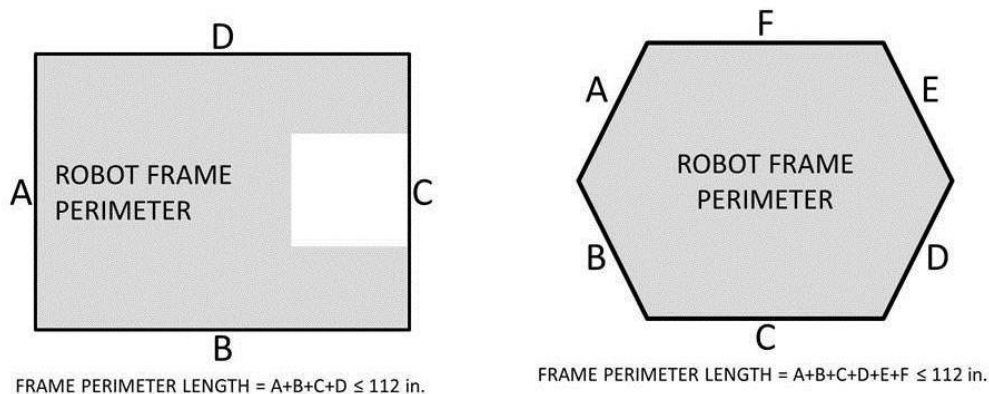

Figure 4-1: FRAME PERIMETER Length Calculations
- A. total length of the FRAME PERIMETER sides may not exceed 112 in. (see Figure 4-1 for examples),